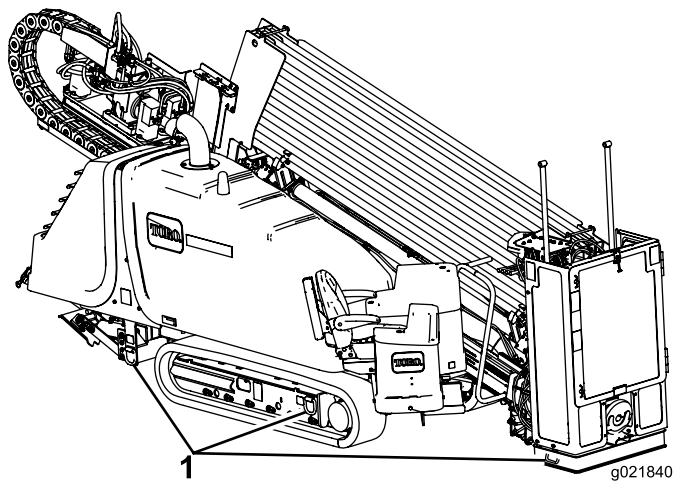

Figure 36
8. Use appropriately rated chains and binders to secure the rings on the left and right track frames and the stake-down plate to the trailer (Figure 36).